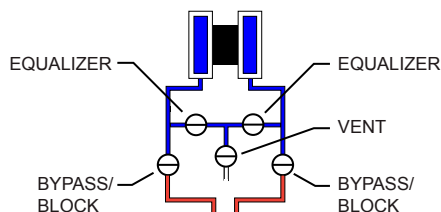

Figure 2.27 - Valve positions for static pressure calibration
1. Close the bypass valves to isolate the pressure below the manifold (Figure 2.27).